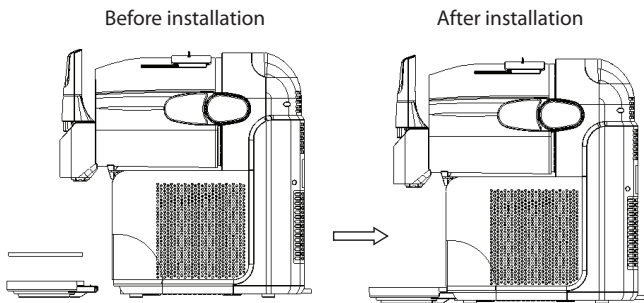

Figure 3-1
- a. Please install the drip tray when using it for the first time, as shown in the figure 3-1: